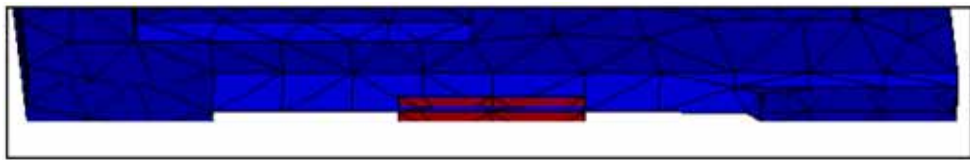

Figure 144: Cutting plane location
- 6.4. Click and drag the cutting plane so most of the unconnected finger is not visible as shown in Figure 144.